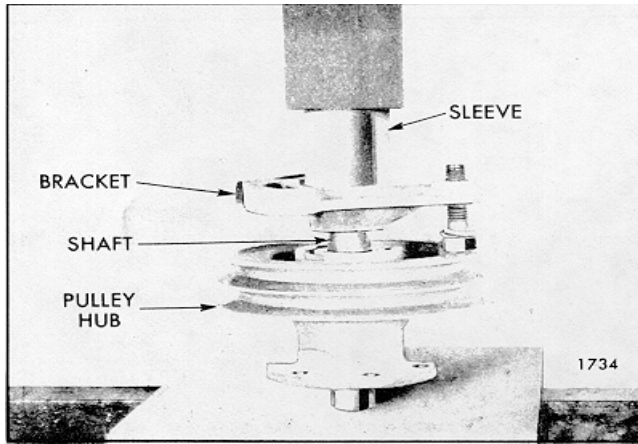

Fig. 6 - Installing Adjusting' Bracket and Bolt on Fan Shaft
6. Insert the bracket pivot bolt with lock washer through 21/32" hole in the bracket with head of bolt at the front side of bracket (Fig. 6).
7. Support the forward end of shaft on the plate of the arbor press. Start the bracket straight on the shaft and, using a sleeve, press the bracket into place in manner as shown in Fig. 6.